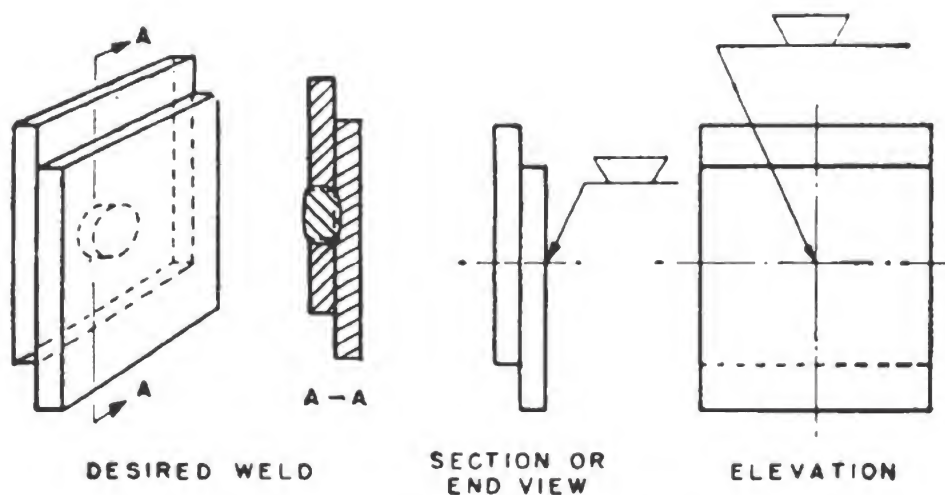

Figure 14-24.—Use of other-side plug welding symbol.
3. If the hole is in the other-side member of a joint, the weld symbol is placed on the reference line away from the reader, as shown in figure 14-24.